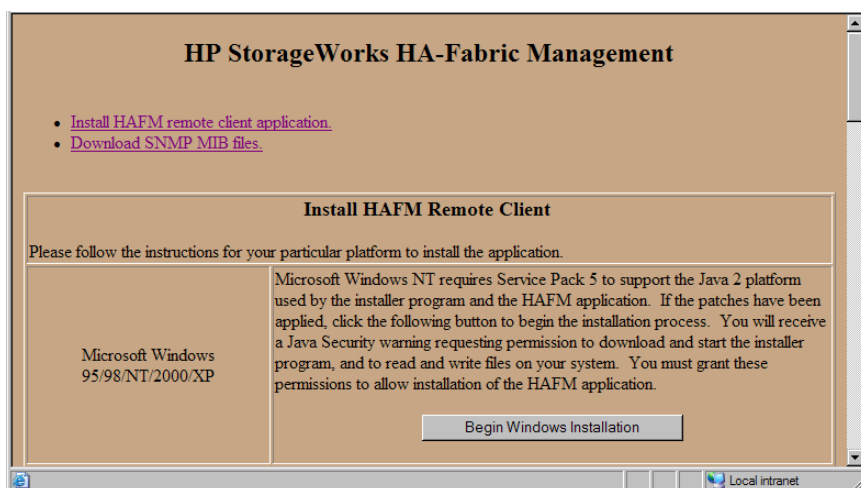

Figure 61 HAFM remote client install
4. The HAFM splash screen appears (Figure 61), with the following options.